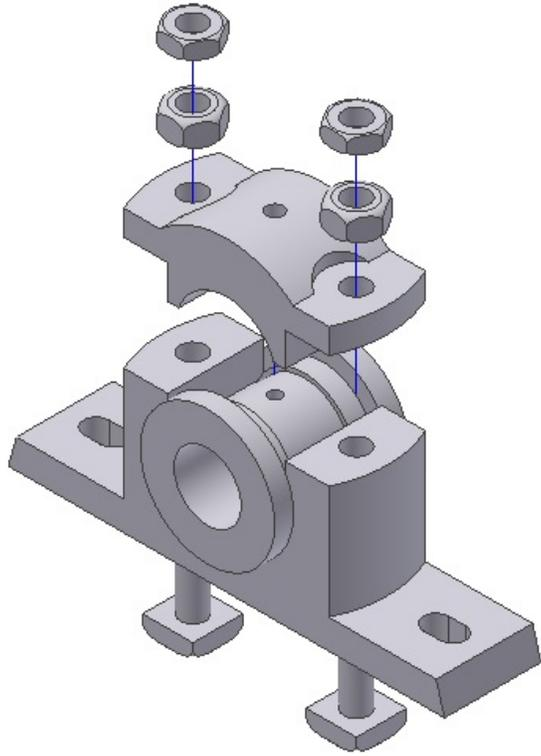

Figure 13-18 Exploded assembly
- c. Manually explode the assembly in four sequences. The first sequence will tweak the two Bolts and the second sequence will tweak the Cap, Lock Nuts, and Nuts. The third sequence will tweak the Lock Nuts. The final sequence will tweak the Nuts, refer to Figure 13-18.
You will notice that the triad, which was displayed in the assembly, is removed from the drawing window. The assembly after creating four tweak sequences is shown in Figure 13-18.